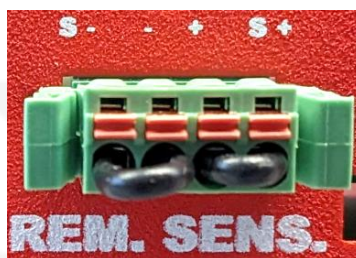

Figure 19: Factory mating Remote Sensing connector.
Once the battery is connected with the correct polarity it will be possible to enable the BatReg² output (see Figure 19). When the output is enabled (ON) by the User, the BatReg² raises the output voltage of the power stage to match the battery voltage and
The BatReg² is shipped with a mating connector (Wurth Elektronik P/N: 691304330004) for remote sensing that short-circuits the S+ and + pins and the S- and - pins, respectively (see **Figure 19**). This configuration performs remote sensing directly at the output connector of the PS. When using the remote sensing feature, leave pins #2 (+) and #3 (-) disconnected.